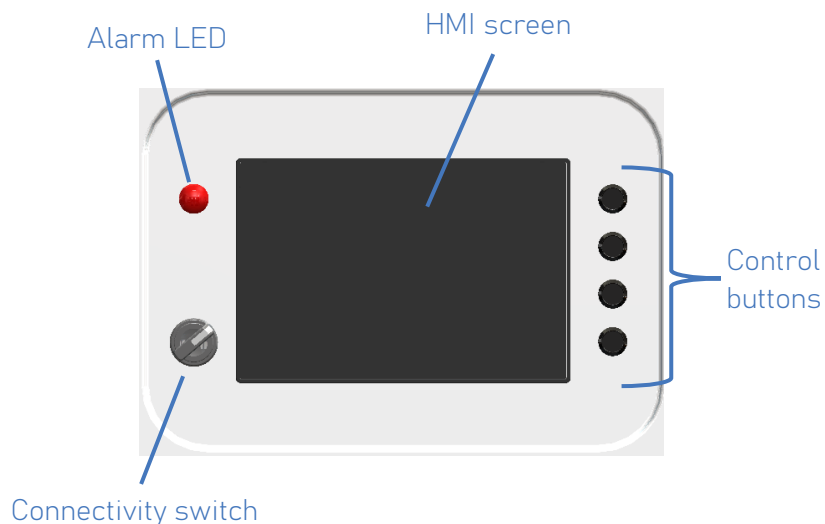

Figure 9 - Control unit – Human/Machine Interface (HMI)
**Figure 9** is a touch screen that allows the user to:
1. Press any control button (**Figure 9**);
Figure 9 has three positions:
- Ensure the connectivity switch (**Figure 9**) is set to the **OFF** position (**Figure 15**).
- Ensure the connectivity switch (**Figure 9**) is set to the **ON** position.